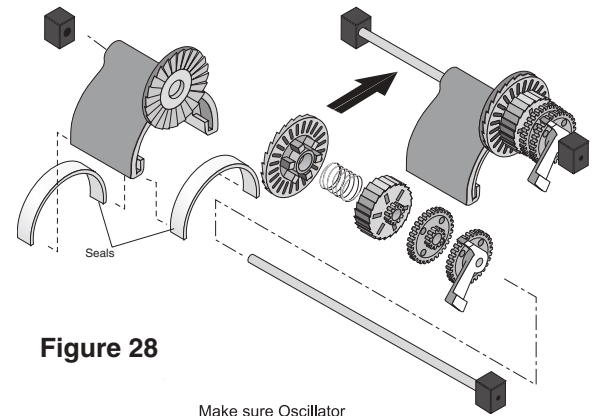

Figure 28
2. Install the oscillator on the long gear shaft. Install the ratchet gear on the shaft so that the teeth engage the ratchet on the oscillator. Install the spring, ratchet drum, pinion gear (large gear first), and cam (gear end first) on the shaft (**see Figure 28**). Hold the gears on the shaft while installing them, and compress the clutch spring to allow assembly to slip into place between the posts (**see Figure 28**).